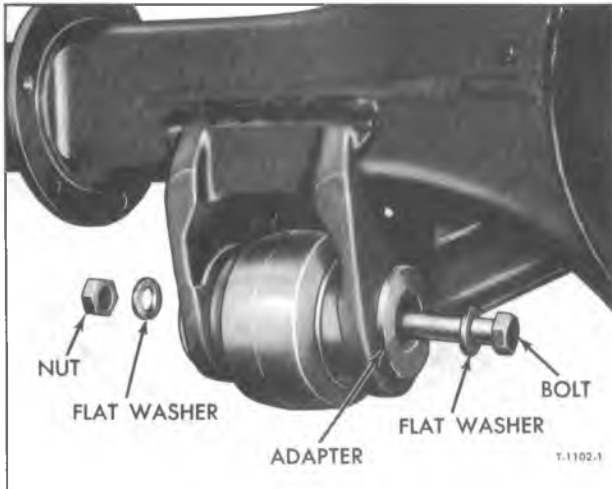
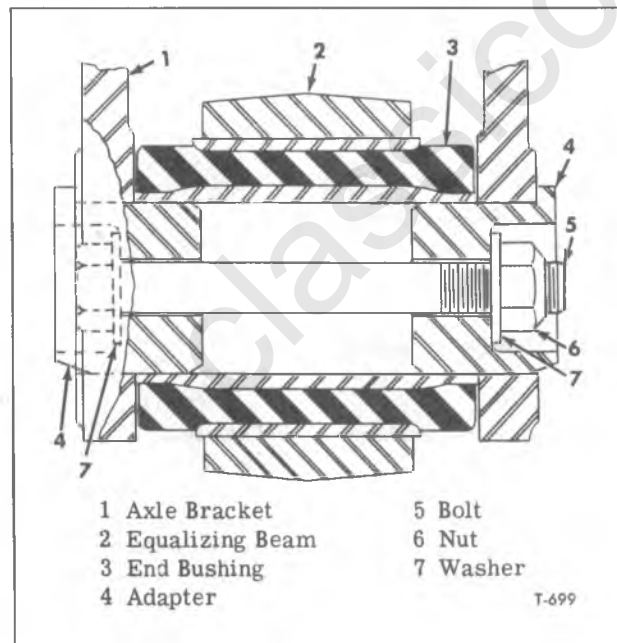

Figure 11—Adapter and Retaining Bolt at Axle Bracket
Figure 12—Equalizing Beam Mounting at Axle Bracket
IMPORTANT: The cut-off (flat) side of each adapter must be located in a vertical position as shown in figure 11.
2. Install bolt and washer through adapter and axle bracket at each end of equalizing beam (fig. 11).
NOTE: Install bolt and washer from inner side with nut located toward wheels (fig. 11). Tighten nuts or bolts to torque listed in "Specifications" at end of this section. Figure 12 shows section through mounting.